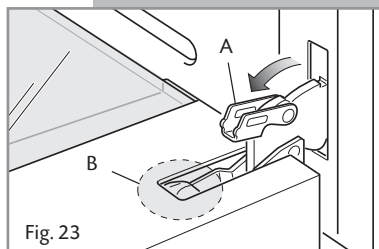
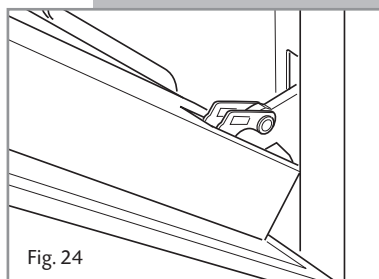

Fig. 23
Fig. 24
- Fully open the lever **A** on the left and right hinges (Fig 23).
- Gently close the door (Fig. 24) until the left and right hinges are hooked to part **B** of the door (Fig. 23).
1. Make sure the door is locked open (see fig. 24).